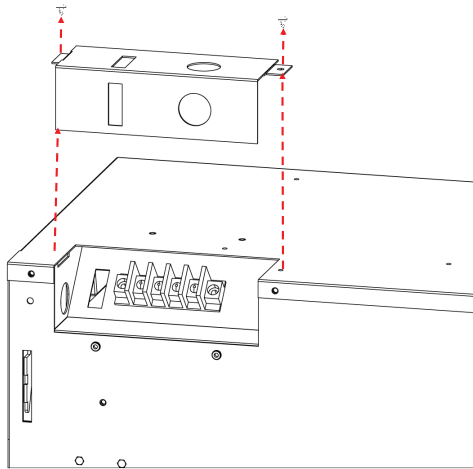

Fig. 3-1
- Remove the 2 securing screws from the junction box cover plate, located on the top left-hand, back- side of the appliance (Fig. 3-1).